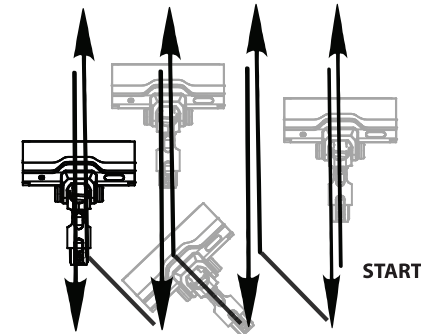

Fig 3
5. When cleaning the floors, move the vacuum forward to collect dirt, pull back, then turn and push forward to clean the next track in a ladder pattern (Fig. 3).